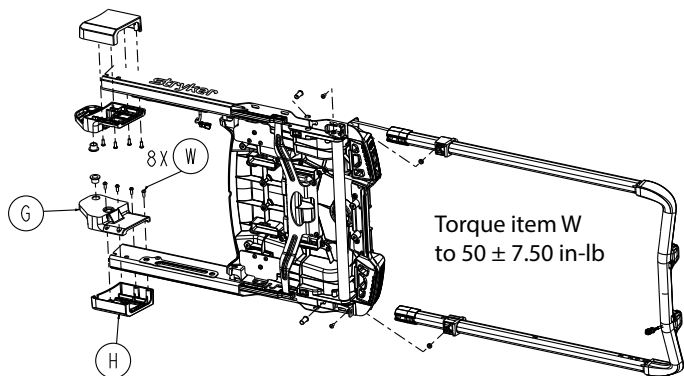

Figure 42 – Remove the pivot caps
8. Using a T25 Torx driver, remove the four button head cap screws (W) that secure the patient left outer pivot cap (H) to the patient left inner pivot cap (G) (Figure 42). Save the screws and pivot caps.